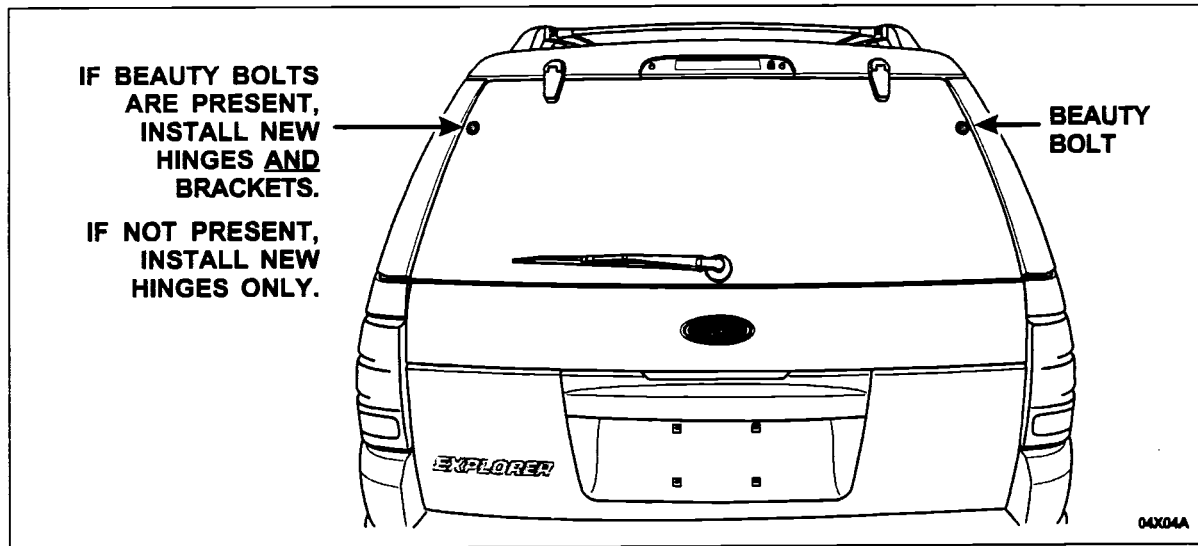

FIGURE 1
- Early 2002 models use ball stud brackets which are secured with beauty bolts which pass through the glass (the head of the bolt is visible on the outside of the glass) and are bonded to the glass about 150 mm (6 inches) from the top of the glass. See Figure 1. If beauty bolts are present, both the liftgate ball stud brackets and hinges will be replaced. Perform **BOTH** the Liftgate Glass Hinge Replacement and the Ball Stud Bracket Replacement. Begin your repairs with **LIFTGATE GLASS HINGE REPLACEMENT**.